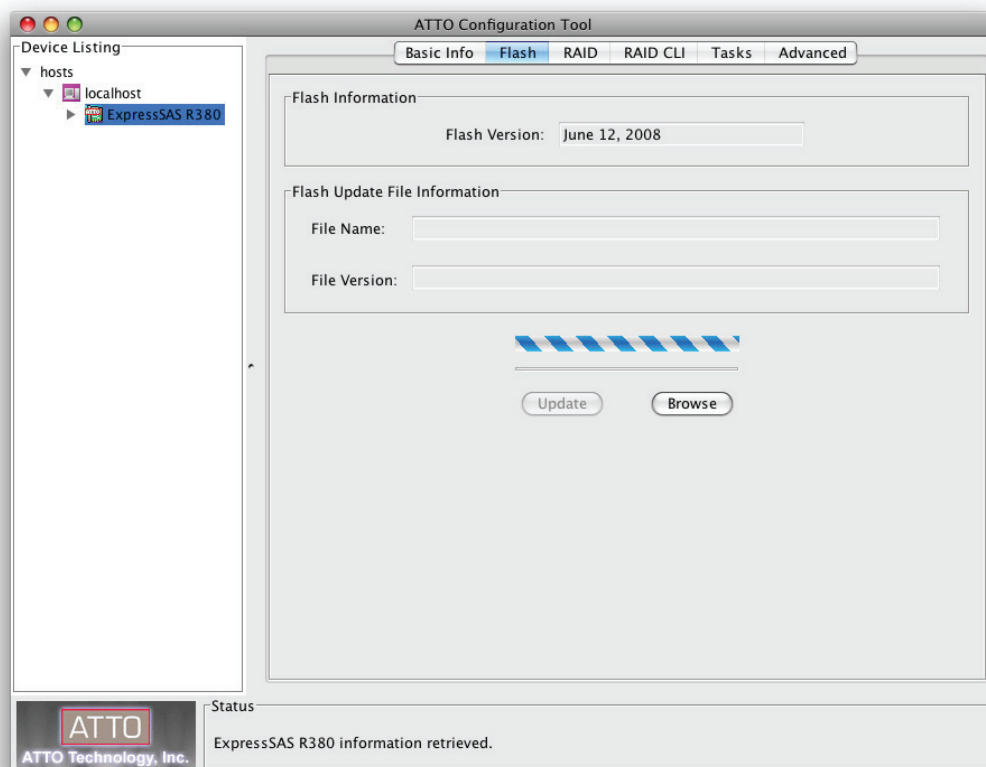

Figure 3
- The **Flash** tab provides information about the current flash version programmed on the highlighted controller. See **Figure 3** on page 4.